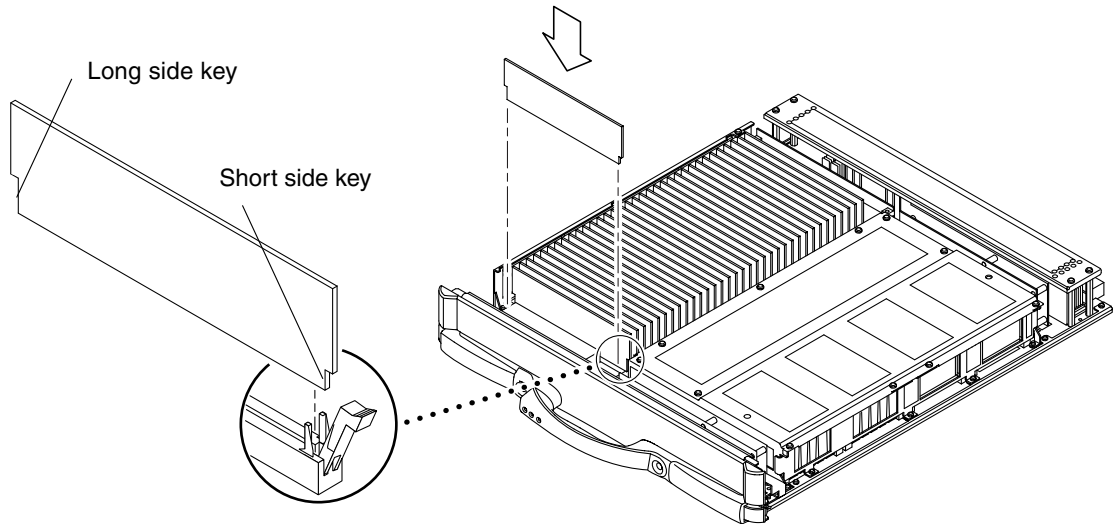

FIGURE 8-11 Installing a DIMM
6. Place your thumbs on the top edge of the DIMM, and push the DIMM firmly into its connector (FIGURE 8-11).